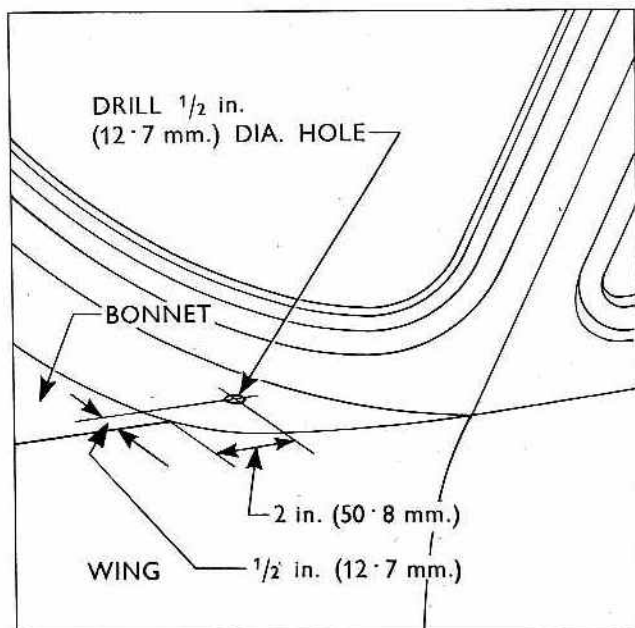

Fig. 588
- 4 Mark off one hole for the aerial mounting on the passenger side of the windscreen skirting panel (as in Fig. 588). Drill a pilot hole $\frac{1}{8}$ in. (3.175 mm.) dia. and then open out to $\frac{1}{2}$ in. (12.7 mm.) dia. Dress the hole, taking care not to damage the bodywork exterior finish and thoroughly clean the underside of the panel in this vicinity to approximately 2 in. (5.08 cm.) dia., so ensuring a good earth for the screened lead-in connection to the receiver fitted later.